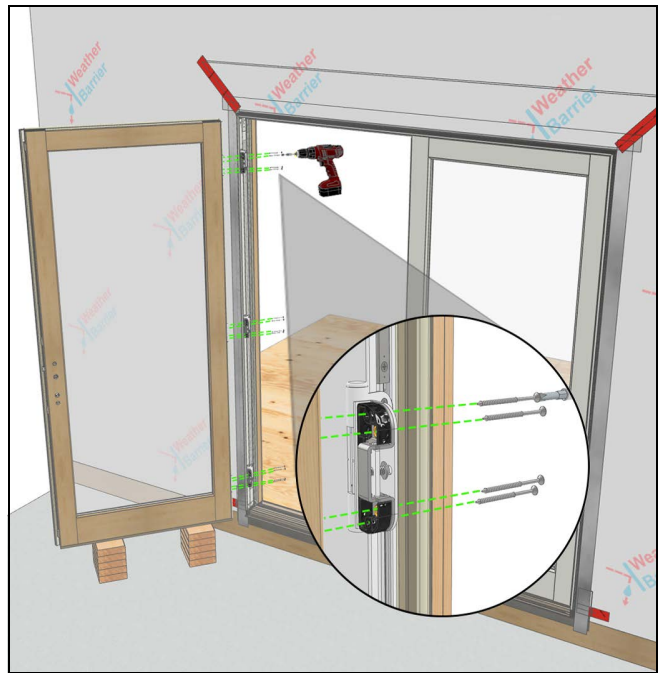

Figure 25
7. Fasten 4 x 2-1/2" matching screws are used to attach each hinge of the panel. Hinges are pre-applied to stationary panel on the swinging jamb. See Figure 25